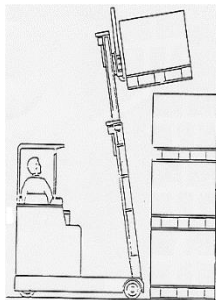

fig. 3
5. Reach out smoothly, taking care not to dislodge loads in adjacent stacks. (See fig. 3)